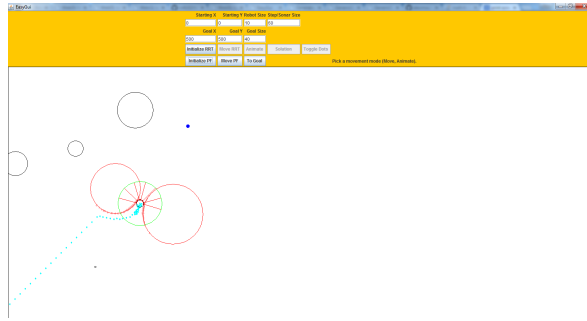

Figure 1: The PF robot stuck in a local minimum point between two obstacles.
**Completeness** Both the Rapidly Exploring Random Tree (RRT) robot and the Potential Fields (PF) robot exhibit completeness. With the RRT robot, it will find a path between any starting and ending point in free space, as long as the goal is within the starting GUI width and height. The starting point of the robot is allowed to be outside of the displayable region. The PF robot can also navigate from any arbitrary point to another arbitrary point, even outside the displayable region.
**Output** As seen in Figure 1, the output of the RRT shows the entire developed tree as well as the final path outlined in red. To show the step-by-step development, the user can press the "Move" button. To see the development animated, press the "Animate" button. For the PF, the user can see the development of the path (planning and execution occur in the same step) by either pressing "Move" for one step or "Animate" for all of the steps. Animate is shown with a delay in order to see the PF robot movement from one point to the next.